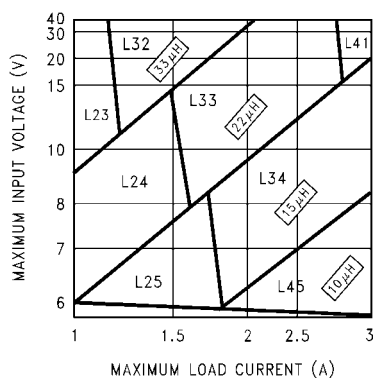
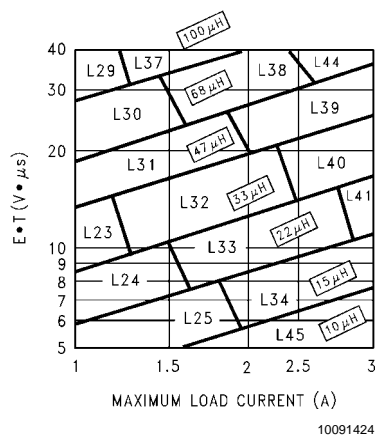

FIGURE 3. LM2676-3.3
FIGURE 6. LM2676-ADJ
Step 3: Determine the inductor required by using one of the four nomographs, *Figure 3* through *Figure 6*. Table 1 provides a specific manufacturer and part number for the inductor.
Step 5: Determine an input capacitor from Table 4 for fixed output voltage applications. Use Table 2 to find the specific capacitor type. For adjustable output circuits select a capacitor from Table 2 with a sufficient working voltage (WV) rating greater than $V_{in\ max}$, and an rms current rating greater than one-half the maximum load current (2 or more capacitors in parallel may be required).
Step 3: Use the nomograph for the 3.3V device, *Figure 3*. The intersection of the 16V horizontal line ($V_{in\ max}$) and the 2.5A vertical line ($I_{load\ max}$) indicates that L33, a 22 μ H inductor, is required.
Step 3: To use the nomograph for the adjustable device, *Figure 6*, requires a calculation of the inductor Volt•microsecond constant ($E \cdot T$ expressed in $V \cdot \mu s$) from the following formula:
Using *Figure 6*, the intersection of 27V• μ s horizontally and the 2A vertical line ($I_{load\ max}$) indicates that L38, a 68 μ H inductor, should be used.
Important Note: When using the adjustable device in low voltage applications (less than 3V output), if the nomograph, Figure 6, selects an inductance of 22 μ H or less, Table 6 does not provide an output capacitor solution. With these conditions the number of output capacitors required for stable operation becomes impractical. It is recommended to use either a 33 μ H or 47 μ H inductor and the output capacitors from Table 6.